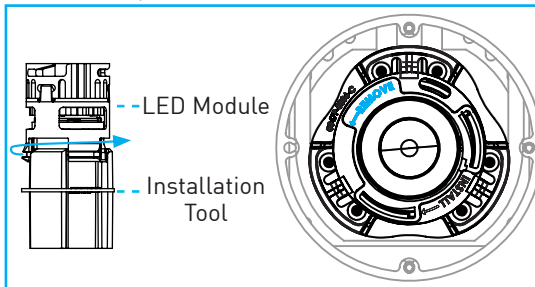

Fig.22
- Integral Based:** Attach LED installation tool by first inserting and twisting clockwise to engage tool with LED module, then counter clockwise to **REMOVE** module from housing. Carefully pull down to completely remove LED module. *(Fig.22)*